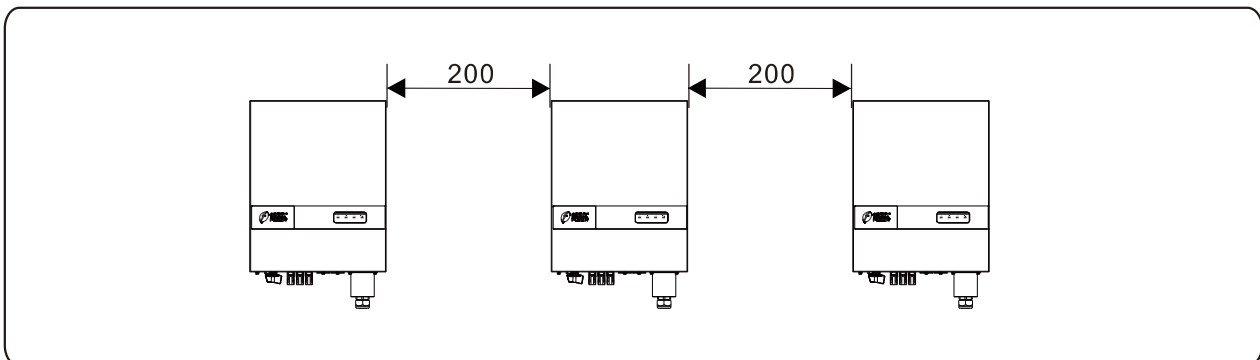
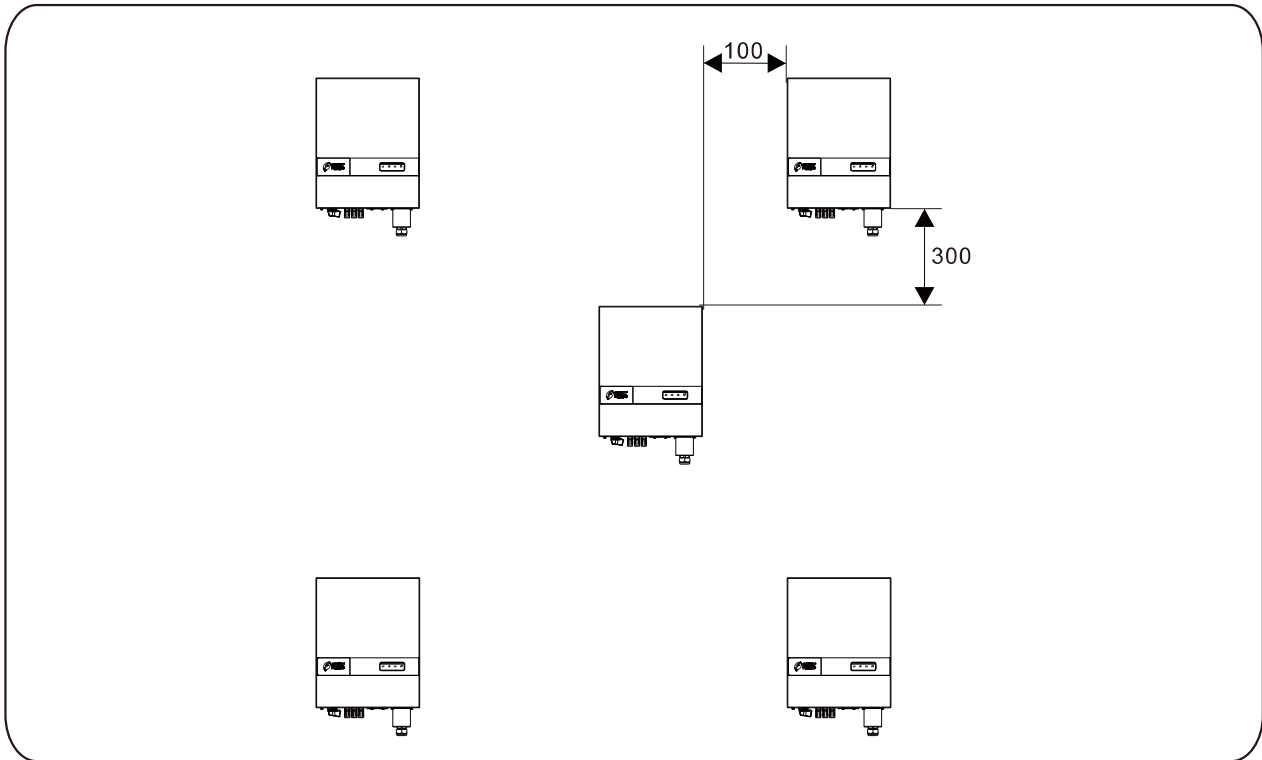
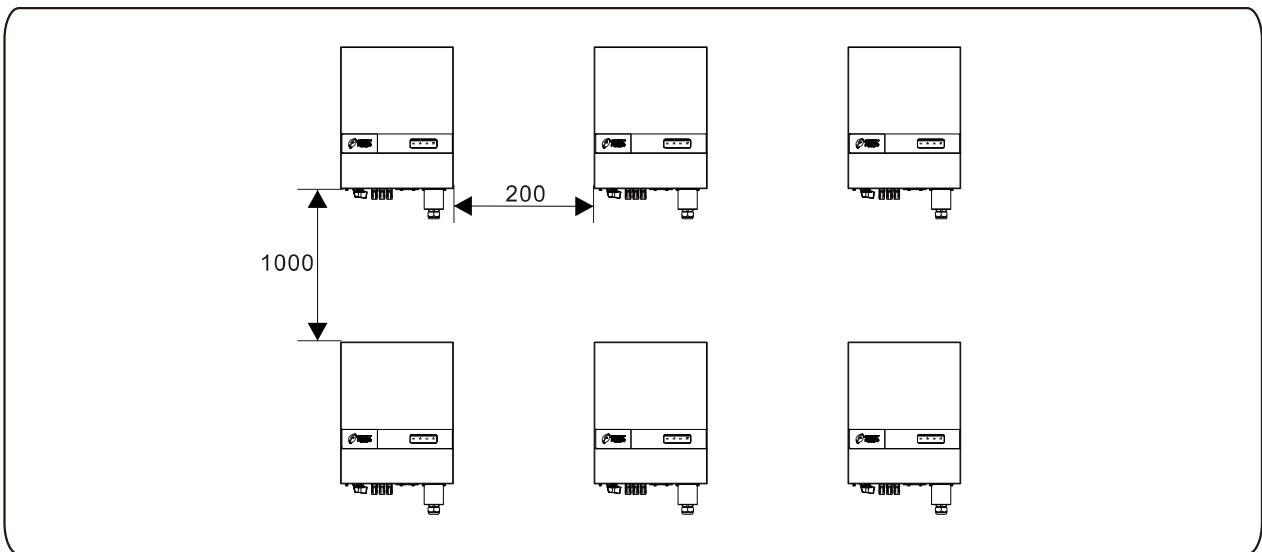

Figure 4.4 Mounting along the same line (unit: mm)
Figure 4.5 Mounting in triangle mode (unit: mm)
Figure 4.6 Mounting in stacked mode (unit: mm)
- c. When installing multiple inverters, there are three suggested installation methods as follows in considering the installation space and heat dissipation. Please install them along the same line (as shown in Figure 4.4) if sufficient space is available; Please install them in triangle mode (as shown in Figure 4.5) or stacked mode (as shown in Figure 4.6) if there is no sufficient space.